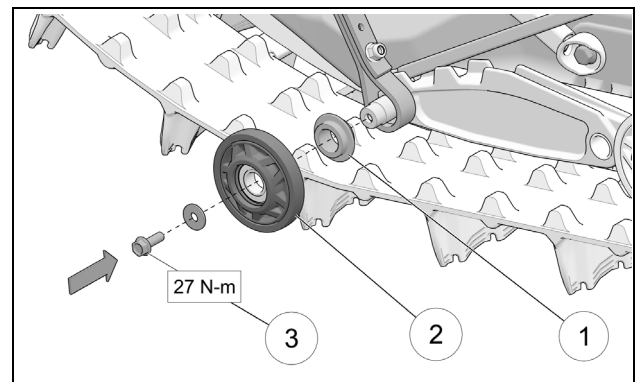

Figure 14
- Re-install spacer (1) and wheel (2) on shaft. Tighten bolt (3) to 27 N-m (20 lb-ft) of torque. See Figure 14.